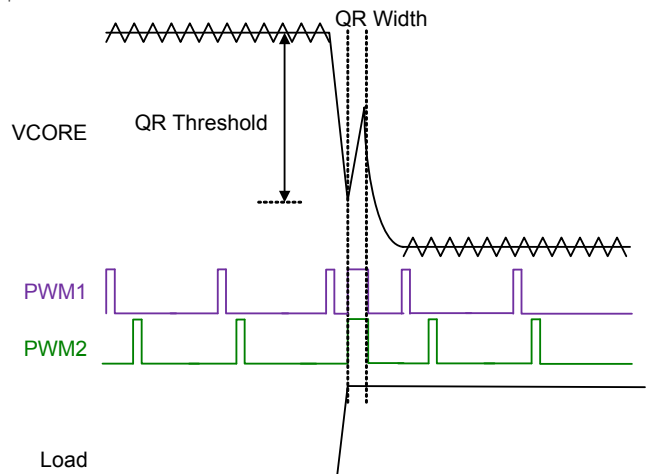
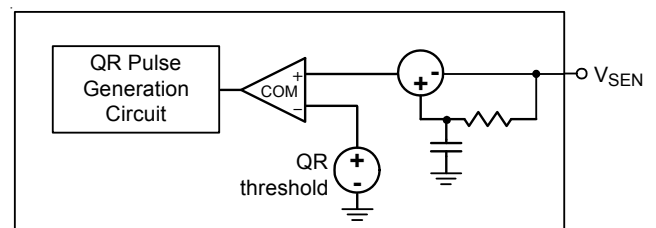

Figure 25. Quick Response Mechanism
Figure 26. Simplified QR Trigger schematic
When the transient load step-up becomes quite large, it is difficult for loop response to meet the energy transfer. Hence, that output voltage generate undershoot to fail specification. The RT3602AH has Quick Response (QR) mechanism being able to improve this issue. It adopts a nonlinear control mechanism which can disable interleaving function and simultaneously turn on all UGATE one pulse at instantaneous step-up transient load to restrain the output voltage drooping. Figure 25 shows the QR behavior.
The output voltage signal behavior needs to be detected so that QR mechanism can be triggered. The output voltage signal is via a remote sense line to connect at the VSEN pin which is shown in Figure 26. The QR mechanism needs to set QR width and QR threshold. Both definitions are shown in Figure 25. A proper QR mechanism set can meet different applications. The SET1 and SET2 pins can set QR threshold and QR width by internal current source 80 $\mu$ A with multi-function pin setting mechanism for MAIN and AUX1 VR rails. Table 2 shows the QR\_TH and QR\_WIDTH for MAIN and AXUI VR rails on the SET[1 to 2] pins.